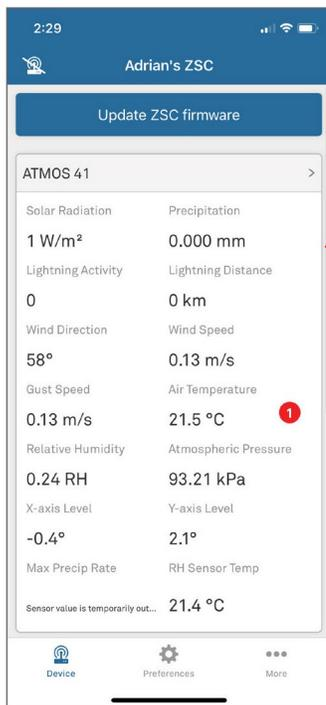

Figure 13. Update ZSC firmware
Once a connection is made, the ZSC main screen will appear (Figure 13). The ZSC is now connected to the ATMOS 41 and ready to update the pyranometer CAL Factor.
7. Press the Update ZSC firmware button (Figure 13) to update to the most current firmware, if needed.